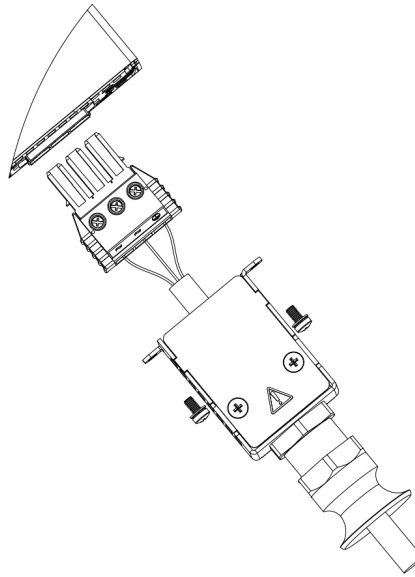

Figure 4-20: AC Wires Fixed to the AC Connector
6. Insert the AC wires into the AC input connector as shown in Figure 4-20.